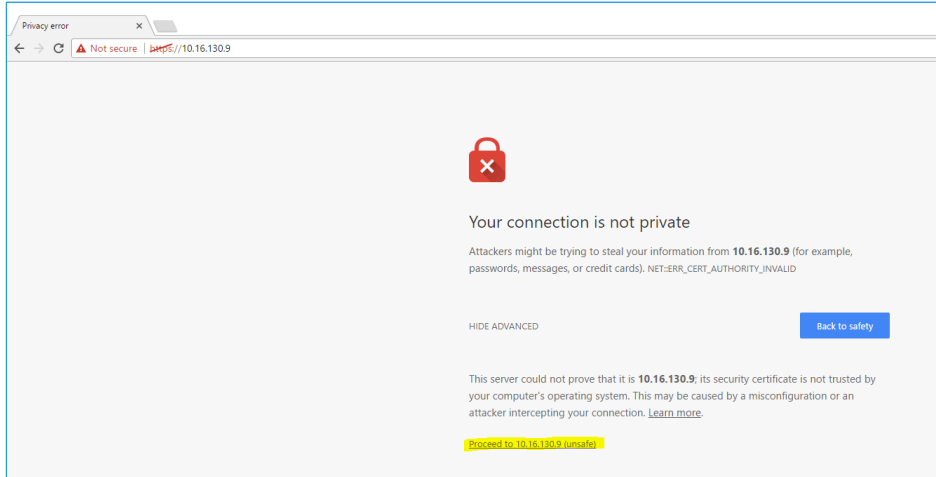

Figure 10: Web interface – second screen
5. Click **Proceed** (Figure 10).